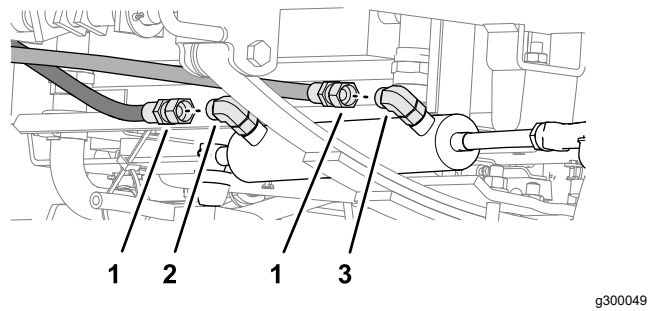

Figure 27
- 1. Disconnect the steering-cylinder hoses from the 90° fittings in the extend and retract ports of the steering cylinder (Figure 27).